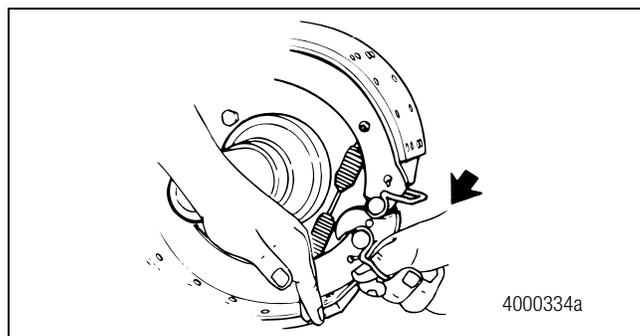

Figure 3.1
1. Push DOWN on the bottom brake shoe. Pull on the brake shoe roller retainer clip to remove the bottom roller. Figure 3.1.